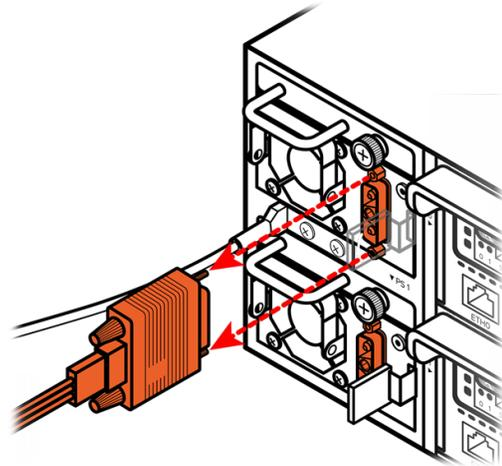

Figure 2-4. Removing a DC Power Cable
2. Loosen the two captive screws on the DC power plug and disconnect it from the chassis. See Figure 2-4.